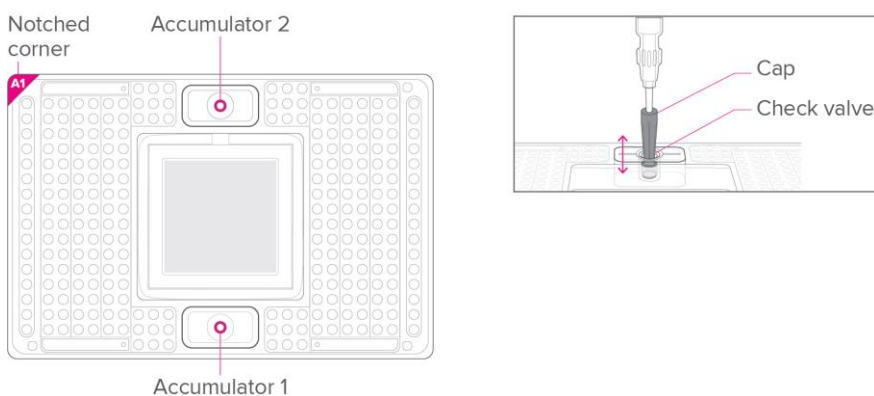

Figure 5. Actuating the check valve in the top accumulator on the 96.16 IFC
- b Use a syringe with the shipping cap in place to actuate both check valves with gentle pressure. Ensure that the poppet can move freely up and down (Figure 5).